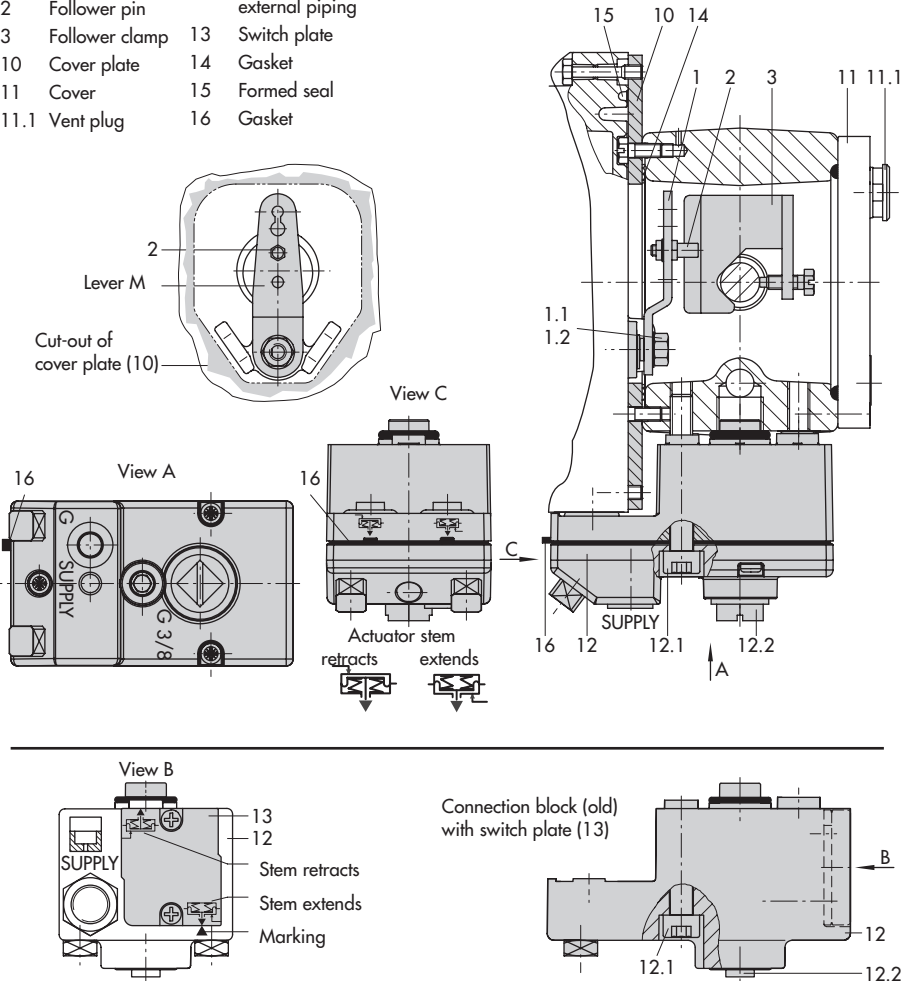

Fig. 5 · Direct attachment – Signal pressure connection for Type 3277 Actuator with 240, 350, 355 and 700 cm2
Mount the positioner on the yoke as shown in Fig. 5. The signal pressure is routed to the actuator over the connection block (12), for actuators with fail-safe action "Actuator stem extends" internally through a bore in the valve yoke and for "Actuator stem retracts" through external piping.
1. Place follower clamp (3) on the actuator stem, align and screw tight so that the mounting screw is located in the groove of the actuator stem.
2. Mount cover plate (10) with narrow side of the cut-out opening (Fig. 5, on the left) pointing towards the signal pressure connection. Make sure that the bonded gasket (14) points towards the actuator yoke.
3. For actuators with 355/700 cm2, remove the follower pin (2) at lever **M** (1) on the back of the positioner from pin position **35**, reposition it in the bore for pin position **50** and screw tight. For actuators 240 and 350 cm2 with 15 mm travel, the follower pin (2) remains in pin position **35**.
4. Insert formed seal (15) in the groove of the positioner housing.
5. Place positioner on the cover plate in such a manner that the follower pin (2) rests on the top of the follower clamp (3). Adjust the lever (1) correspond-
6. Make sure that the tip of the gasket (16) projecting from the side of the connection block (12) is positioned above the actuator symbol that corresponds with the actuator with fail-safe action "Actuator stem extends" or "Actuator stem retracts." If necessary, remove the three fixing screws and the cover. Then reposition the gasket (16) turned by 180°. The previous version of the connection block (Fig. 5, bottom) requires the switch plate (13) to be turned such that the corresponding actuator symbol points to the marking.
7. Place the connection block (12) with the associated seal rings against the positioner and the actuator yoke. Screw it tight using the fixing screw (12.1). For actuators with fail-safe action "Actuator stem retracts", additionally remove the stopper (12.2) and fit on the external signal pressure piping.
8. Mount cover (11) on the other side. Make sure that the vent plug points downwards when the control valve is installed to allow any condensed water that collects to drain off.